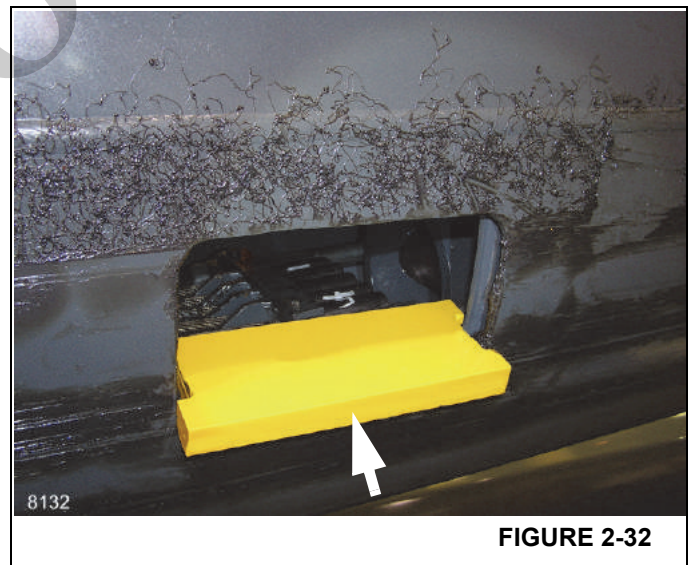

FIGURE 2-32
3. Install the telescope hold valve tool, P/N 80041761, see Figure 2-32. While holding the tool in position have a helper retract section 3 to lock the tool into place.